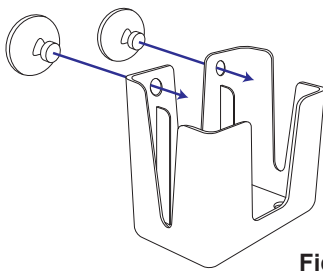

Figure 11
- 3a. If you plan to remove or relocate the outside cradle antenna at some point, use the suction cups provided in Packet A. Using a twisting motion, press the suction cups into the two holes on the antenna cradle (see Figure 11), then press the cradle onto the glass at the desired location.